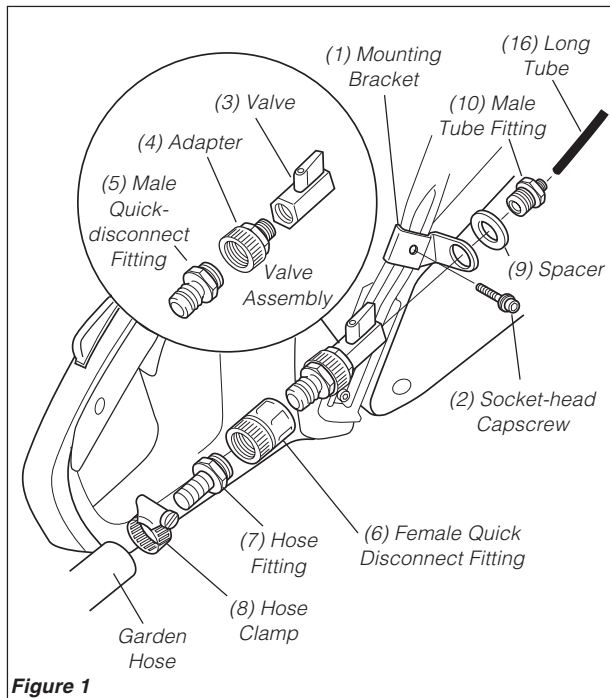

Figure 1
1. Remove the existing socket-head capscrew from the upper right-hand saw handle mount, then attach the mounting bracket (1) using the socket-head capscrew (2) provided with the Kit. See Figure 1.
2. Position the valve assembly (3, 4, 5 ass'y) and spacer (9) to the mounting bracket and secure it with the male tube fitting (10). Make sure the valve handle is positioned up. See Figure 1.
Index Numbers correspond to call out numbers in Figures 1 and 2 of the previous page.